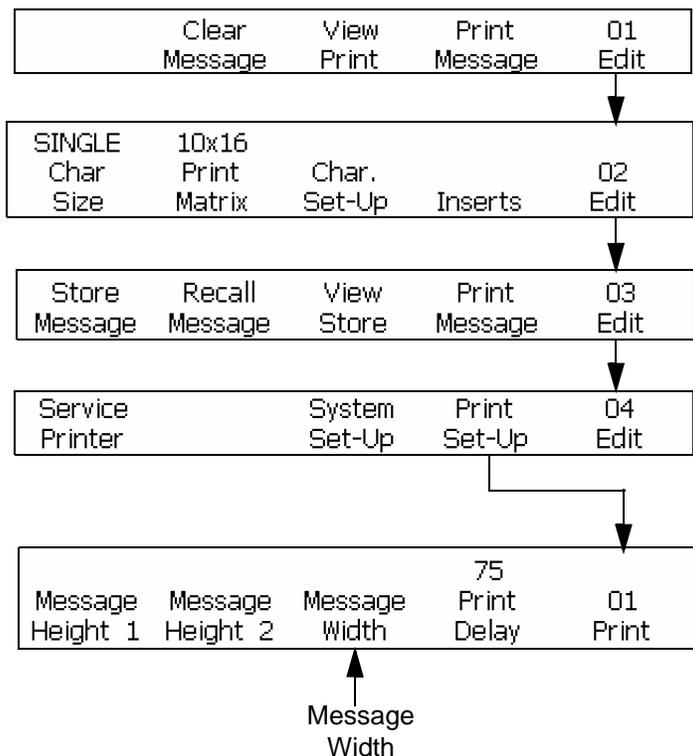

Figure 6-22: Height Adjustment Setting
The following procedure describes how you can to adjust the width of the message that equally changes both Nozzle-1 and Nozzle-2 displays. The message width is adjusted in the Frame <01 Print>. Refer to Figure 6-22.
- 1 Begin in the Frame <01 Print>. Refer to Figure 6-22.